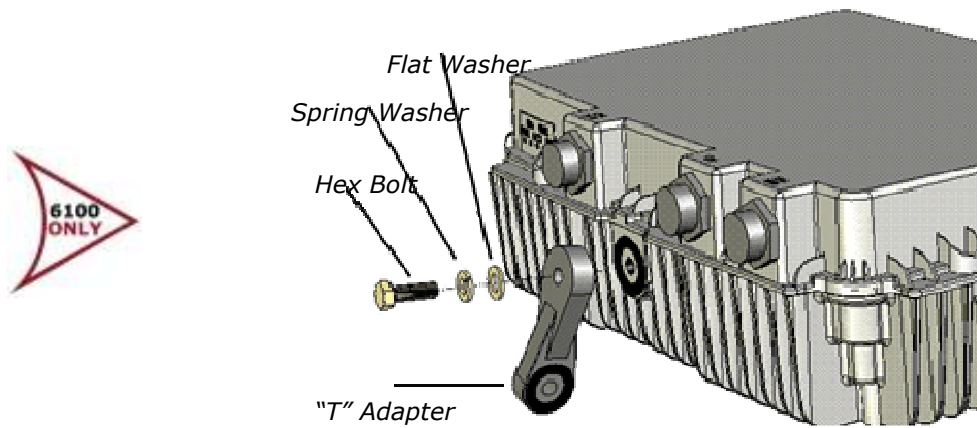

Figure 4. Mount 'T' Assembly
- Attach the 'T' adapter to the GoBeam 6100 using an M8x25 hex bolt [G], a spring washer [I], and a flat washer [H], as illustrated in Figure 4.